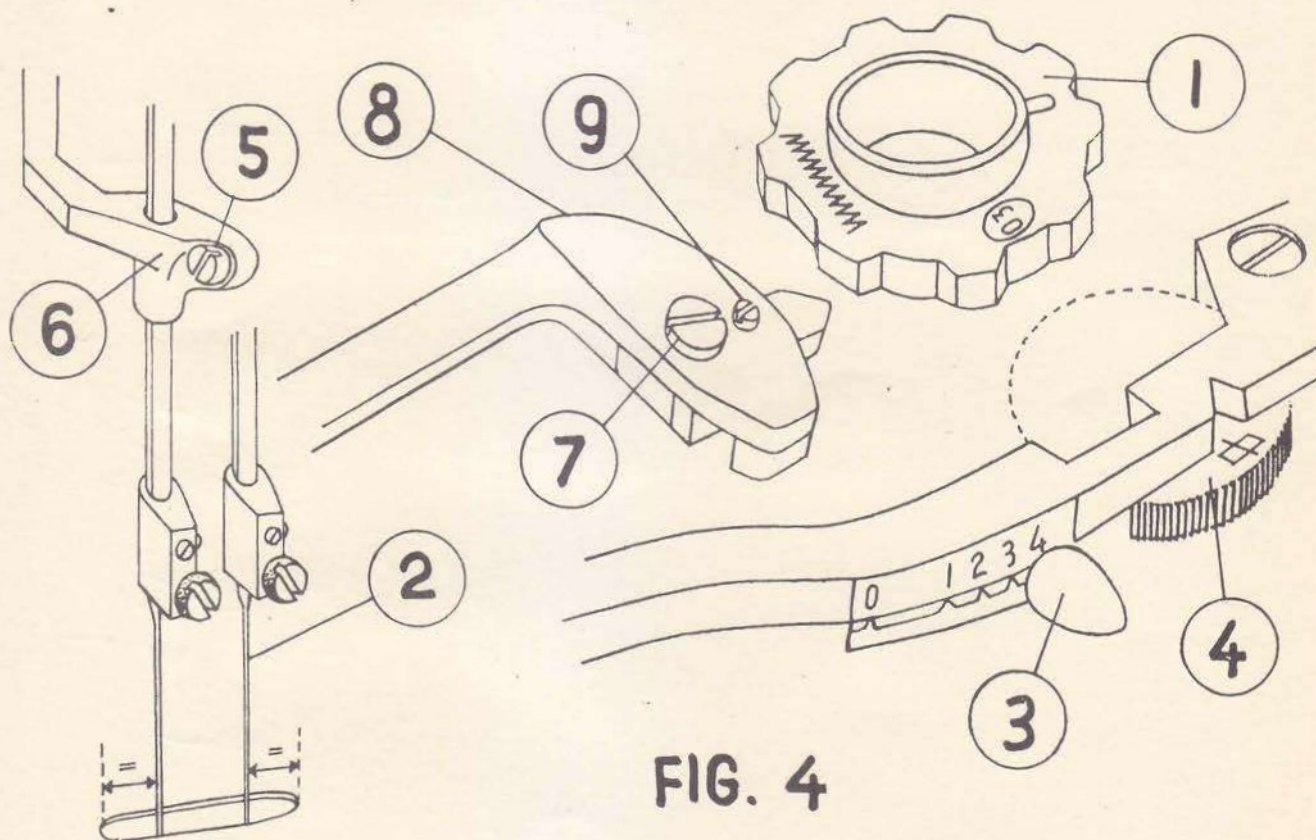

FIG. 4
3. CENTERING OF NEEDLE BAR FOR STITCH WIDTH "4" (for "Supermatic" Fig. 4)